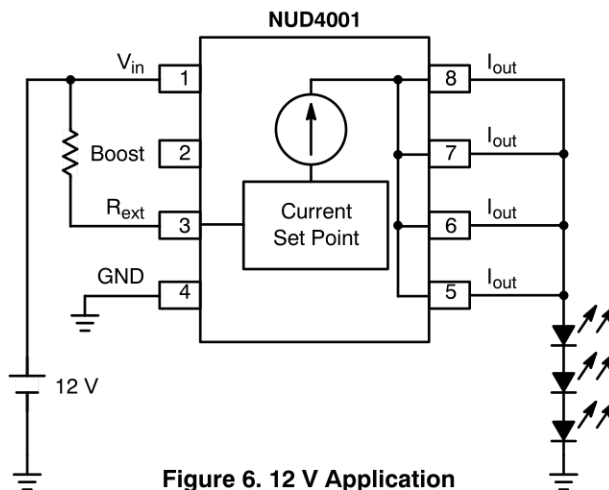

Figure 6. 12 V Application (Series LED's Array)
- Per example in Figure 6, $V_{in} = 12 \text{ V}$
- Per example in Figure 6, $V_{LED} = 3.5 \text{ V} + 3.5 \text{ V} + 3.5 \text{ V} = 10.5 \text{ V}$